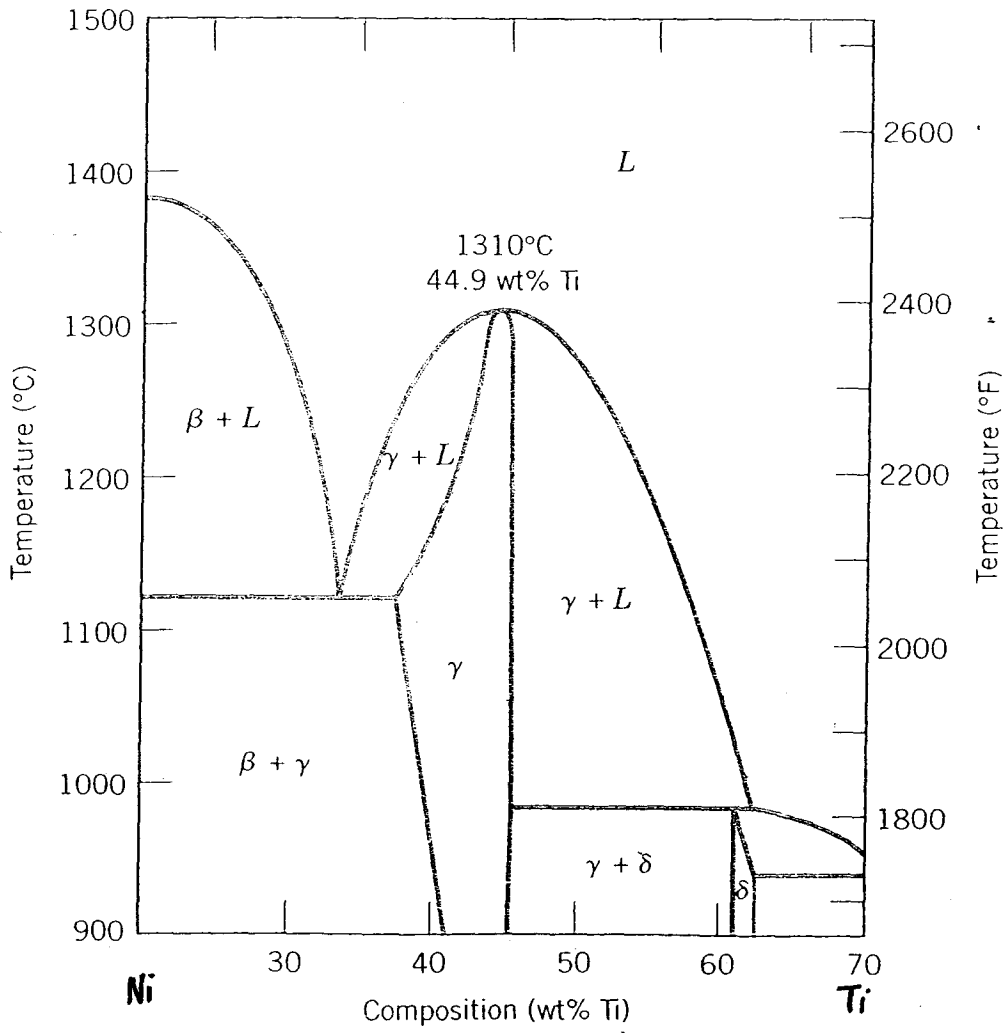

Figure 2
2. [a] Use the phase diagram for the Ni - Ti binary system Figure 2 to answer the following questions